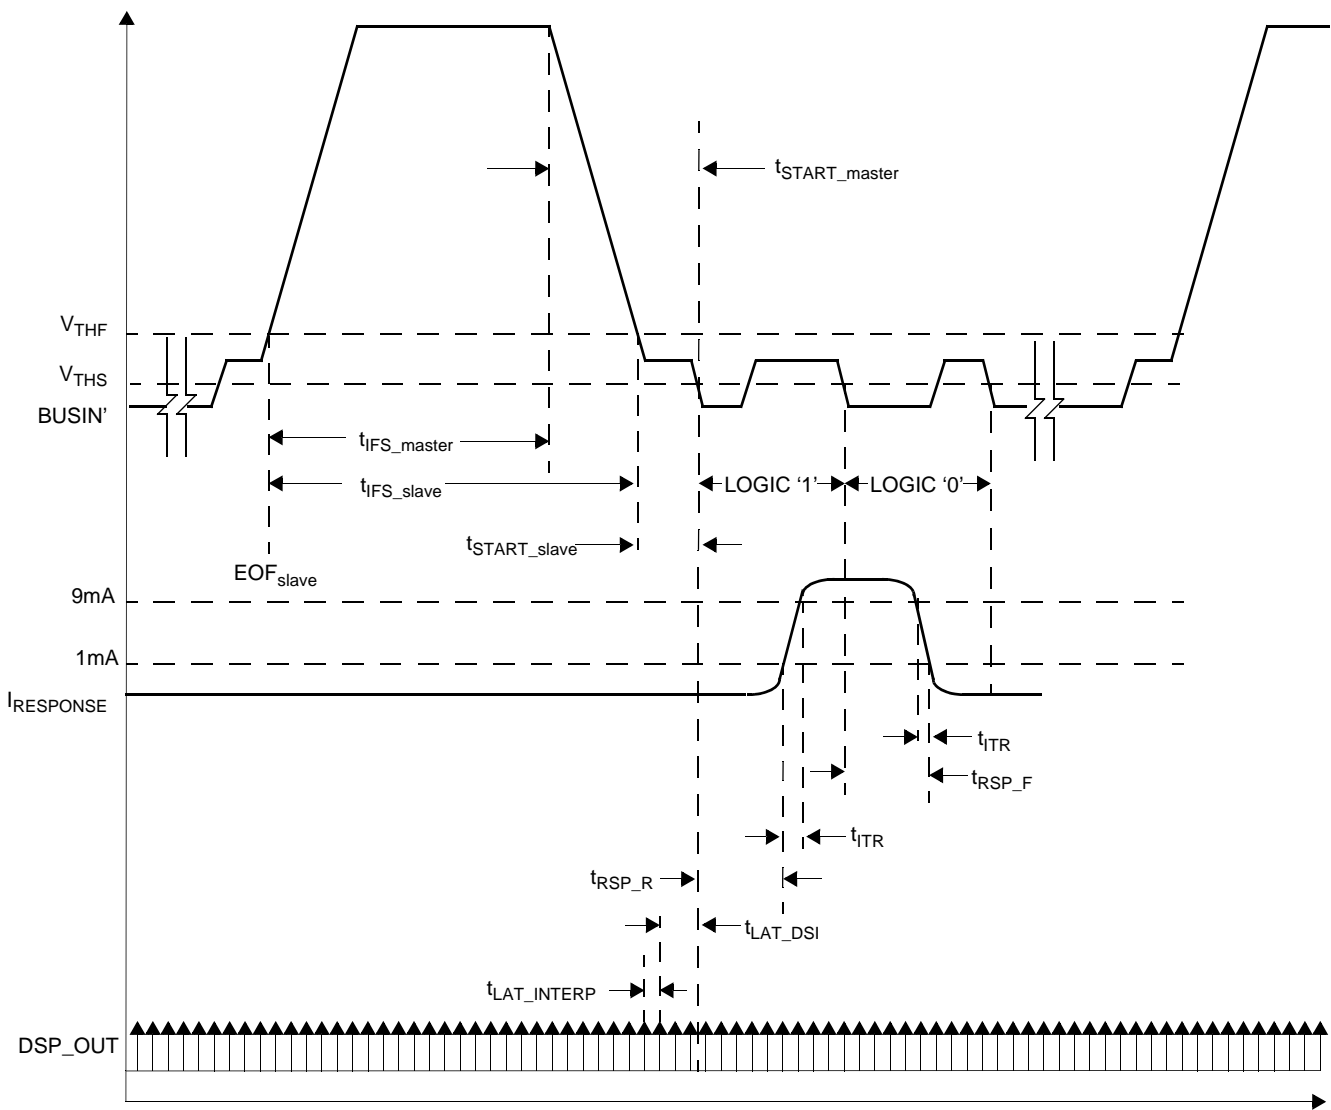

Figure 8. DSI Bus Inter-frame Timing
| 96 | Inter-frame Separation Time (See Figure 8) Following Read Write NVM Command Following Initialization Following other DSI bus commands | t_{IFS} | 12 | — | — | ms | (7) |